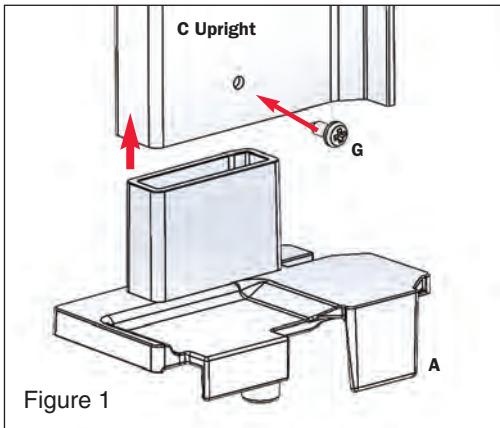

Figure 1
Caution: Put on safety glasses. Join the Left Hand Upright Lower Plastic (A) to the Left Hand Upright (C), drill a pilot hole using a $\frac{7}{64}$ " bit and fasten with a Self-Tapping Screw (G). (See FIG 1) For other side, repeat to Join Right Hand Upright Lower Plastic (B) to Right Hand Upright (D) with Self-Tapping